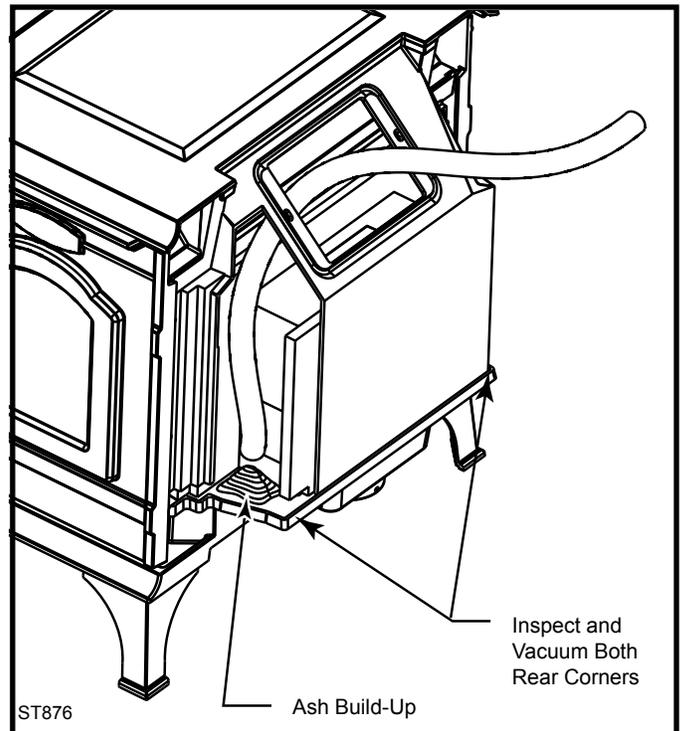

Fig. 35 Inspect and clean out ash accumulation on either side of the non-catalytic combustion system.
- Inspect for and remove ash build-up behind the combustion package. This should be done in conjunction with annual cleaning of the chimney connector since this inspection is most conveniently done through the flue collar opening. Inspect the passages to either side of the combustion package (a mirror will be helpful) and vacuum away ash using a flexible vacuum hose inserted into each passage. Care should be taken not to damage the white fibrous material in this rear chamber. (Fig. 35)